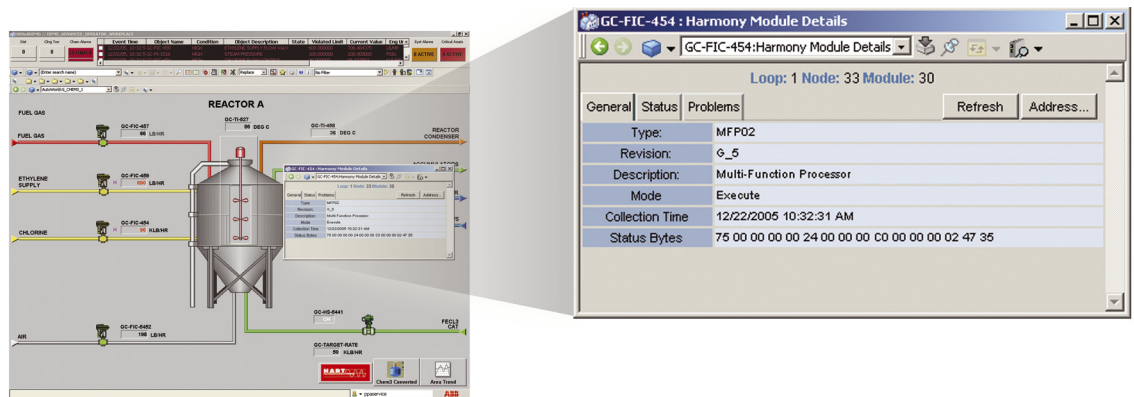

Figure 14. Module Status View
- **Module Details.** The Module Details aspect (Figure 14) provides detailed information about the operational status of a selected Harmony module. Detailed information is available through the following navigation tabs: